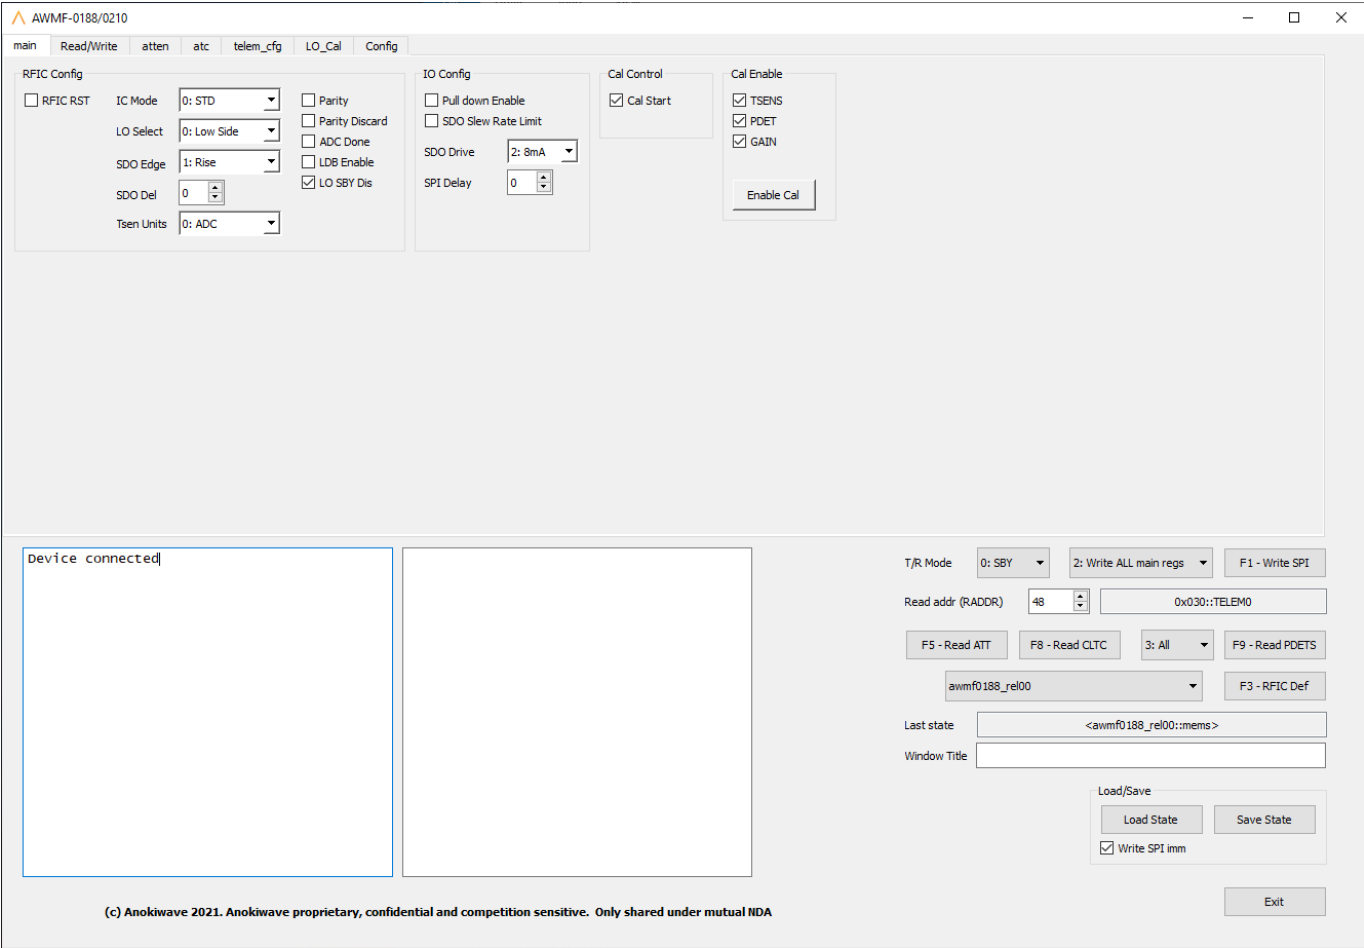

Figure 19: Control Software: Main Tab
The main tab user interface (UI) screen is shown in Figure 19, just after start up. The status box should report *Device Connected*. Any errors encountered in connecting to the hardware shall be reported to the same status box. The majority of widgets in the UI have tooltips for further information on the respective feature/control.